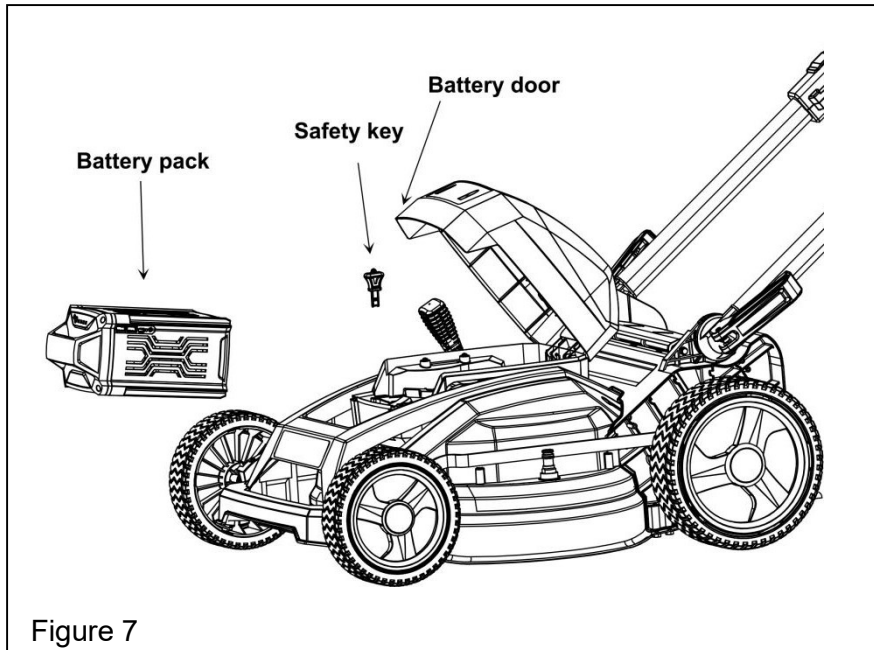

Figure 7
**TO INSTALL BATTERY PACK** (See Figure 7)
**TO REMOVE BATTERY PACK** (See Figure 7)